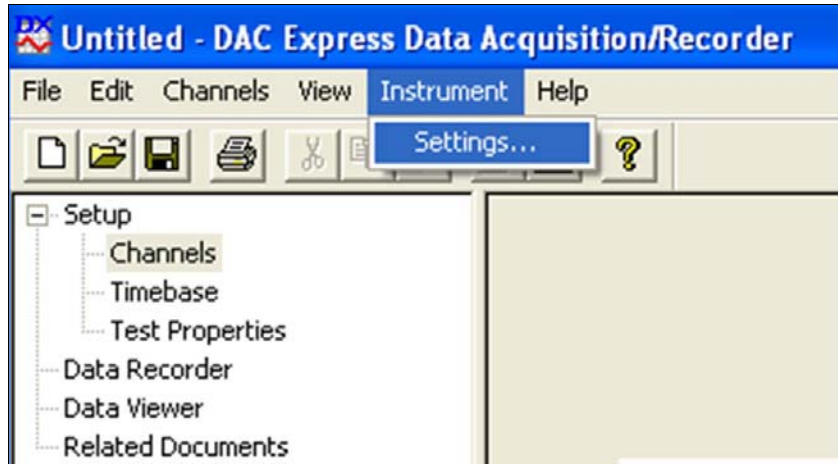

FIGURE 3-2: DAC EXPRESS INSTRUMENT SETTINGS
- 2) The next sequence of steps will identify the EX1048 instrument and identify it as the active instrument. First, click **Instrument** → **Settings** in the main menu (see Figure 3-2).